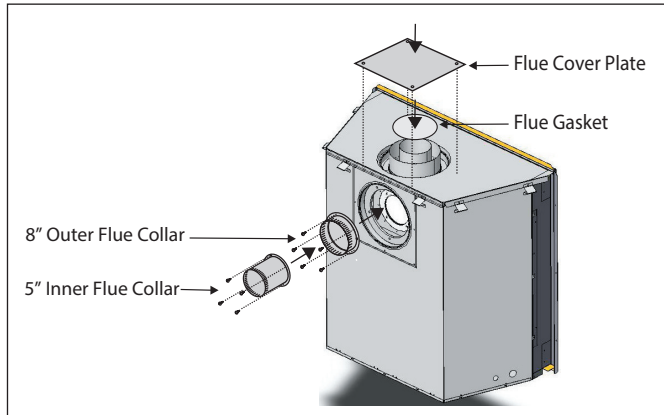

**Figure 8.** Flue cover and collar removal, Top Vented fireplace.
1. Remove the Rear flue cover and gasket (5" and 8") on the flue outlet, as shown in *Figure 8*.
outlet, as shown in *Figure 8*.